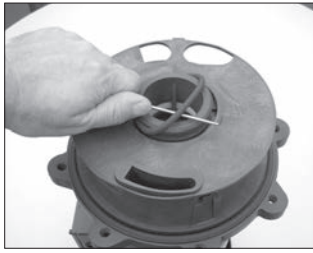

Figure 16
6. Carefully remove the inner volute o-ring (item 5). See figure 16. Inspect for chemical attack, swelling, brittleness, cuts, etc.